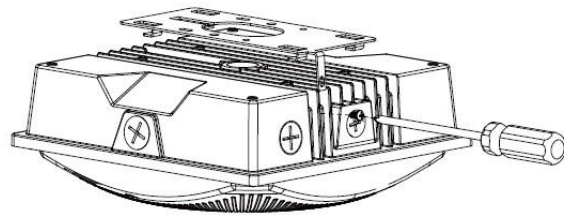

Figure 2
- 6:** Remove quick mounting plate from back of fixture. (Figure 2)